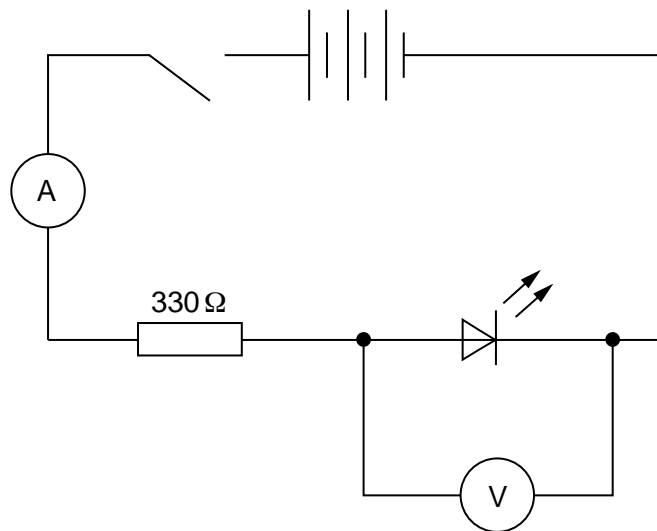

Fig. 2.1
Connecting leads to enable the Supervisor to set up the circuit shown in Fig. 2.1.
- 4 At the changeover, the Supervisor should remove the $10\,000\Omega$ resistor from the circuit and check that the circuit is set up as shown in Fig. 2.1. The 330Ω resistor should be in the circuit and the switch should be open.